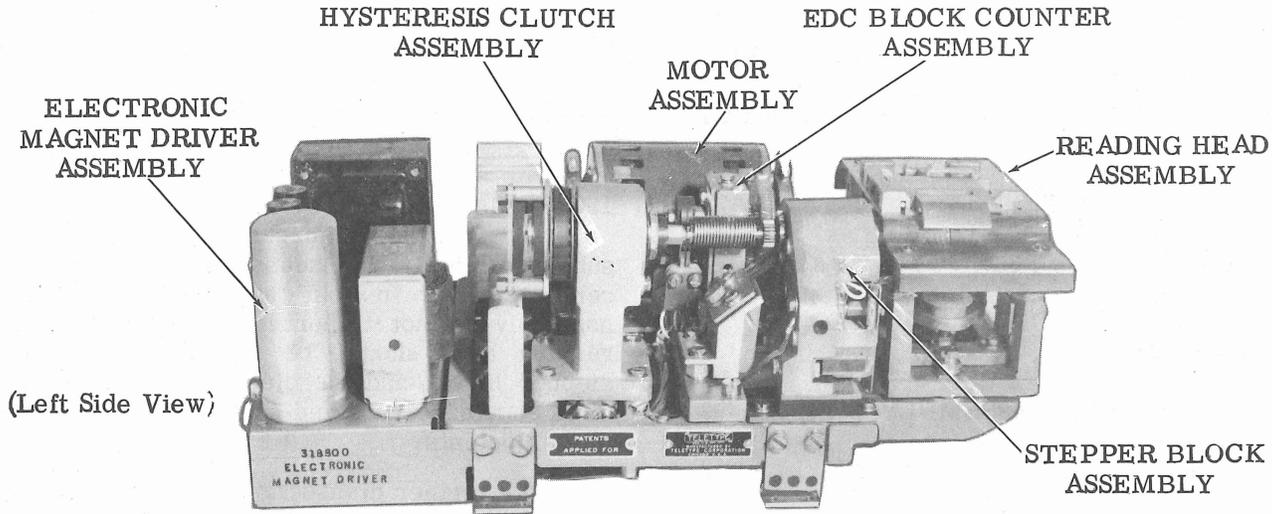

Figure 1 - Major Subassemblies of High Speed Tape Reader (DX4)
2. DISASSEMBLY OF DX1, 3, 4, OR 804 READER (Figure 1)
READING HEAD ASSEMBLY (Figures 1, 2, and 3)